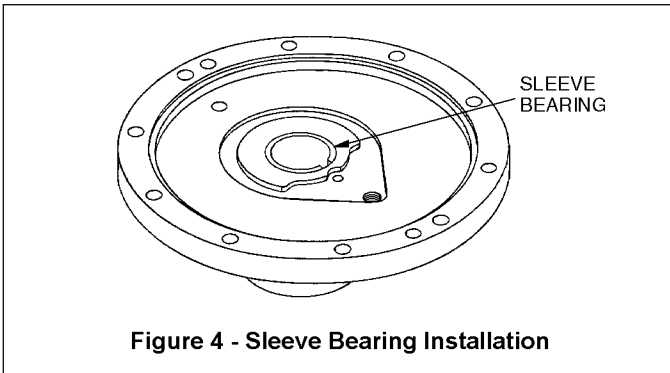

Figure 4 - Sleeve Bearing Installation
- c. Coat the new bearing with a quality grade of bearing grease, and place it on the inside face of the head with the notched end UP. See Figure 4.